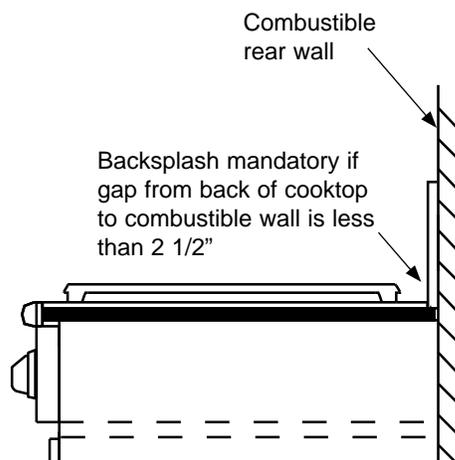

FIGURE 2
- Installation of a non-combustible material (up to the hood) or a backsplash is always recommended, and mandatory if the distance to the back wall from the cooktop is less than 2 1/2" (Figure 2). When installing a backsplash, use only Dacor model numbers AEB3609, AEB3612, AEB4809 or AEB4812.